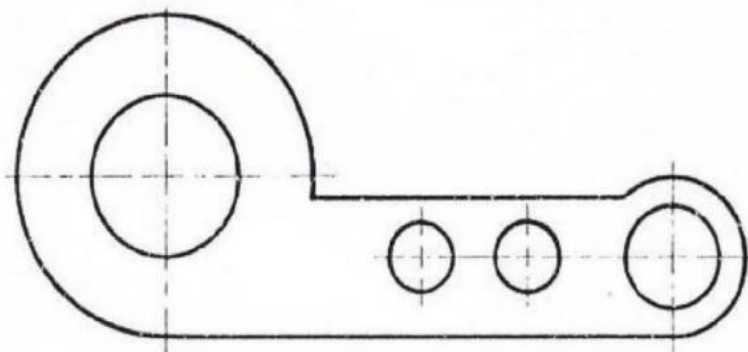

Fig. 8
- Copy Fig. 8 to 1:1 scale and dimension it using Aligned system with chain dimensioning method